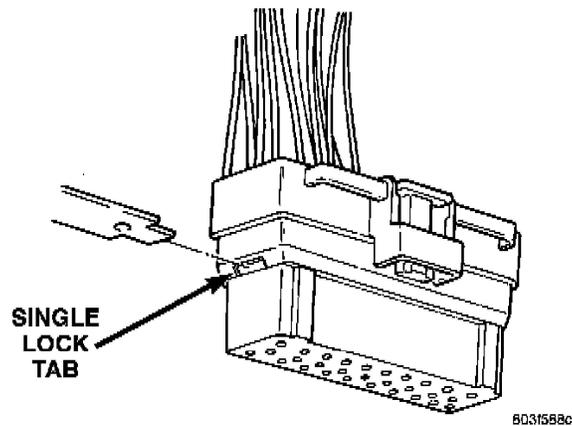

FIGURE 2 - Single Lock Tab
6. Push in the single lock tab on the side of the insulator (Figure 2).